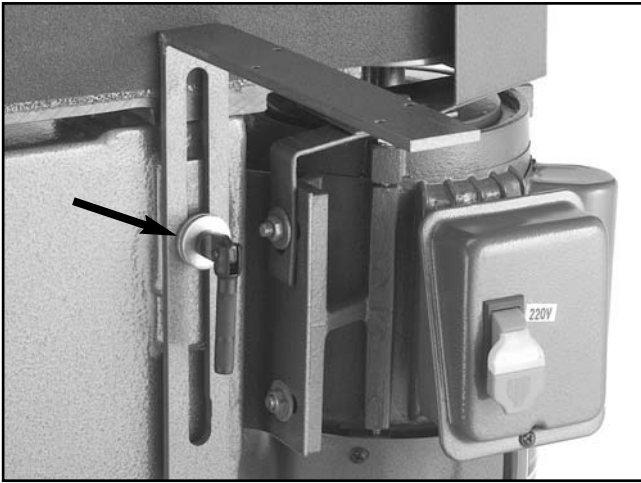

Figure 14. Front L support installed.
4. Install the front L support with the lock handle and two $\frac{3}{8}$ " flat washers as shown in **Figure 14**.